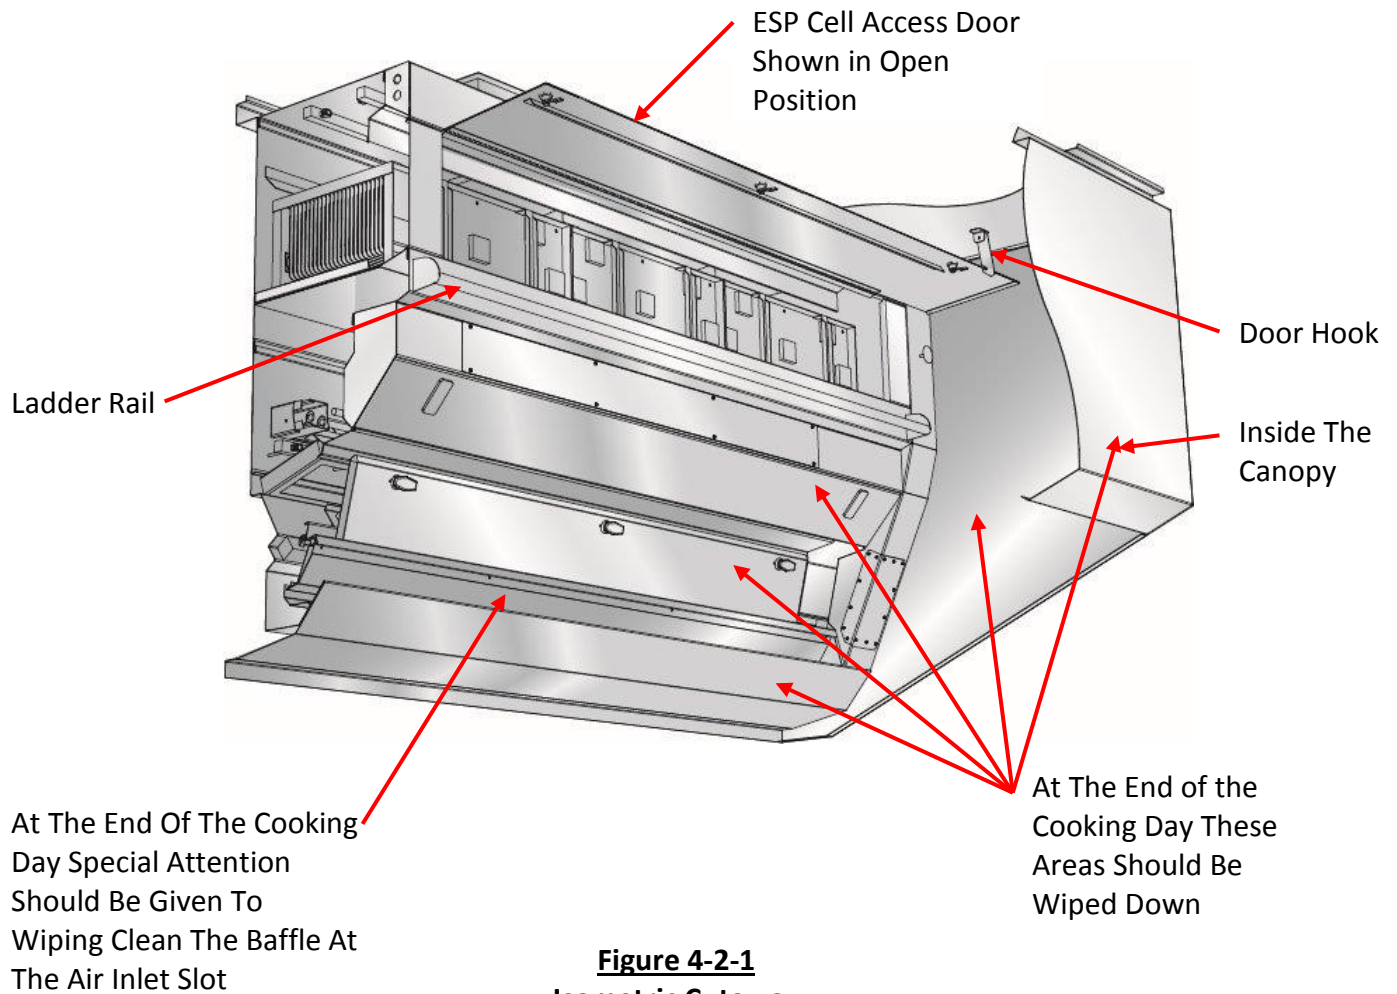

Figure 4-2-1
3. For general cleanliness the underside of the Ventilator should be wiped down as shown in Figure 4-2-1.
7. Place the ladder under the Door Hook, open the Access Door and hook open (Refer to Figure 4-2-1 and 4-4-1).